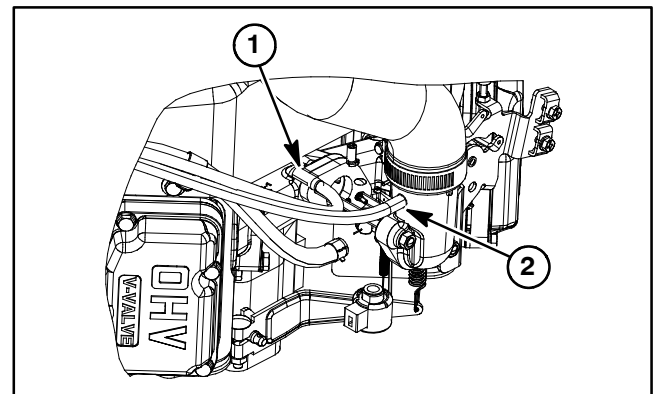

Figure 17
B. If EVAP hoses are removed from engine fittings, note hose location for assembly purposes. Figures 17 and 18 identify engine hose locations.